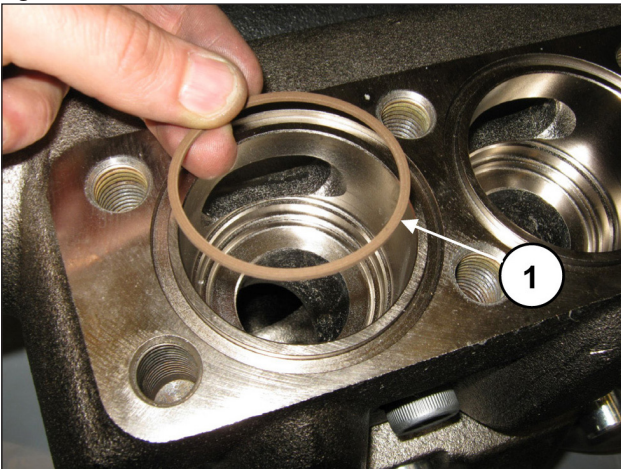

Fig. 154
Insert the anti-extrusion ring, exploded view pos. 23 (pos. ①, Fig. 154).